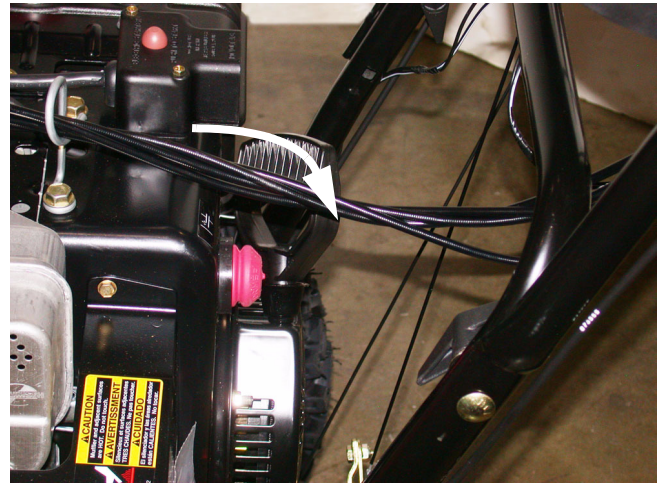

Figure 15.21
15.21. Twists or kinks in the cable can create a bind in the chute directional control. See Figure 15.21.